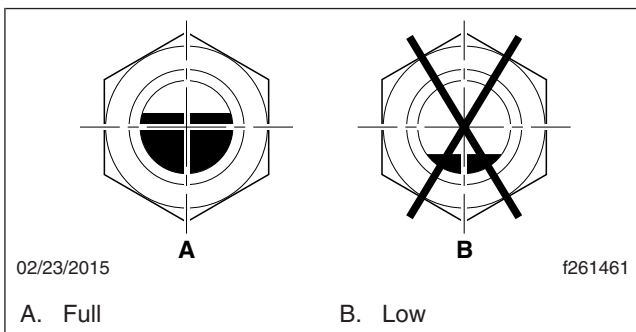

Fig. 7, Transmission Fluid Level Sight Glass
2. Check the fluid level in the sight glass. When the fluid level is at or above $\frac{3}{4}$ of the sight glass, then it is at or above the minimum fill level. See **Fig. 7**.